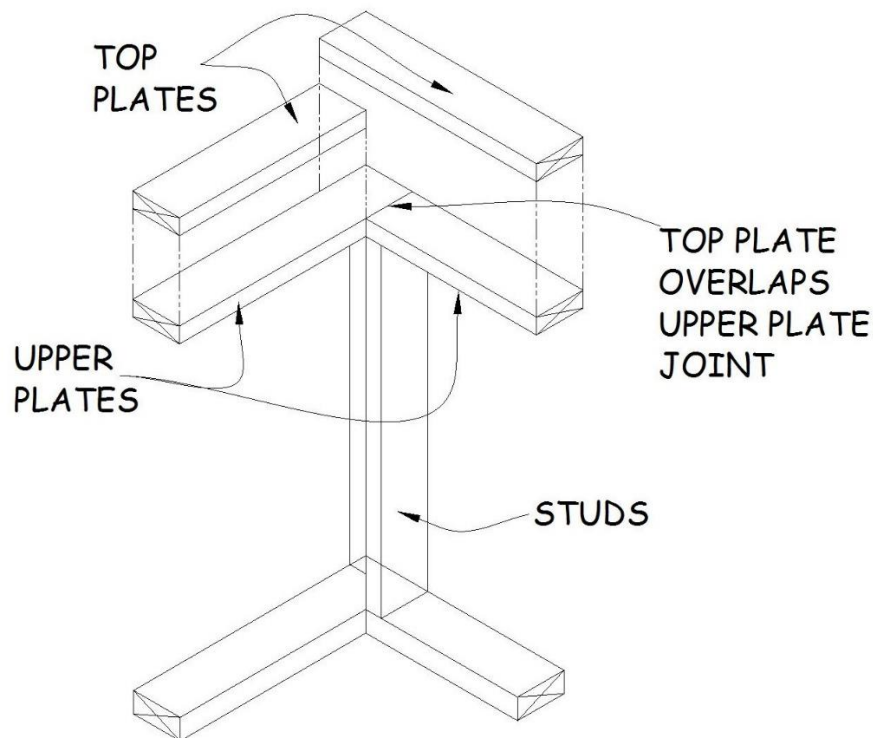

Figure 5-4. Interior Wall Top Plate Installation.
6. When nailing top plates, use three 16d (or 3¼" Paslode) nails across 2x6 plates and two 16d (or 3¼" Paslode) nails across 2x4 plates. Nail at each intersection of top plates and nail at each stud location. Note that the top plates at an intersection overlap the joints of the walls below (see Figure 5.4).